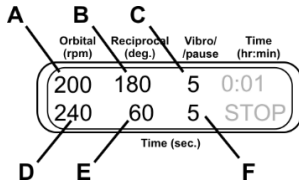
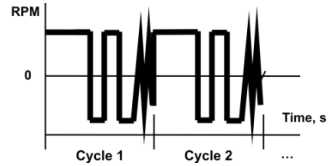

Figure 7.
Figure 8.
- 6.9.2. **Orbital + Reciprocal + Vibro motion.** Set the speed (fig. 7/A, 20–250 rpm) and time (fig. 7/D, 1–250 s) of Orbital motion. Set the amplitude (fig. 7/B, 0–360°) and time (fig. 7/E, 1–250 s) for Reciprocal motion. It is performed at the same speed as the Orbital motion (fig. 8). Set the amplitude (fig. 7/C, 0–5°) and time (fig. 7/F, 1–5 s) for Vibro motion.